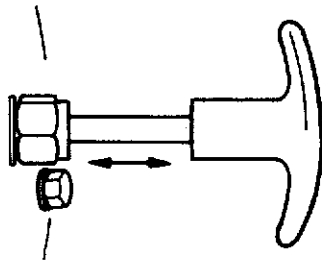

Figure 2-7 Winch/PTO control operation
- c. Depress the clutch pedal and select reverse gear, then pull out the winch/PTO control in the seat base (see Fig. 2-7) to engage the winch drive. Increase engine speed to approximately 1300 rpm then slowly release the clutch pedal to begin winding out the winch rope.
- c. Depress the clutch pedal and select a low forward gear, then pull out the winch/PTO control in the seat base (see Fig. 2-7) to engage the winch drive. Increase engine speed to approximately 1300 rpm then slowly release the clutch pedal to begin winding in the winch rope.